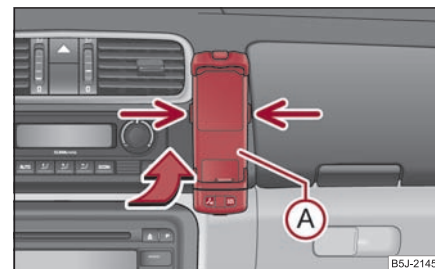

Fig. 137 Universal preparation for the phone
- First of all push the adapter  in the direction of arrow ⇒ **fig. 137** up to the stop into the mount. Press the adapter slightly downwards, until it locks securely into position.
- Press simultaneously the side locks of the mount and remove the mobile phone and adapter ⇒ **fig. 137**.